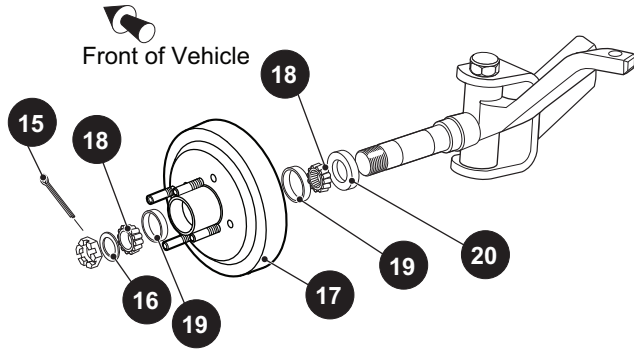

Figure 8 Wheel Bearing Replacement
- Tighten the jam nut (36) to the specified torque (Ref Fig. 8).